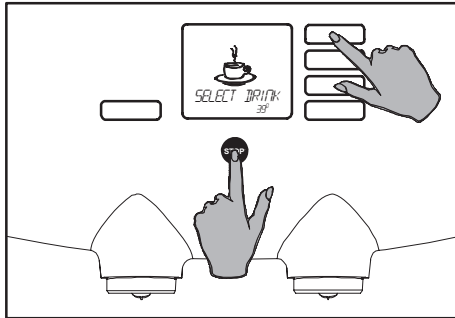

Fig. 71 Access the operator menu
1. Activate the operator menu (fig. 71), see also § "Access the operator menu" (fig. 27).